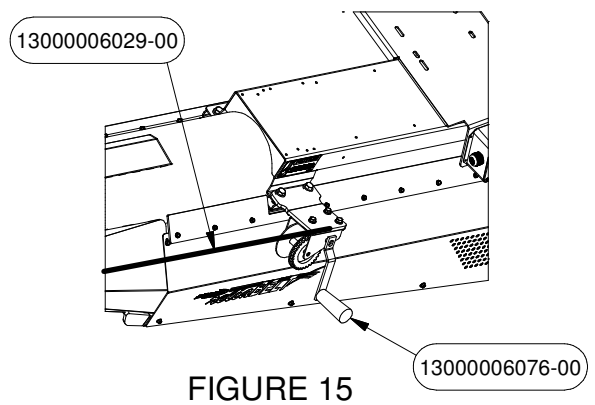
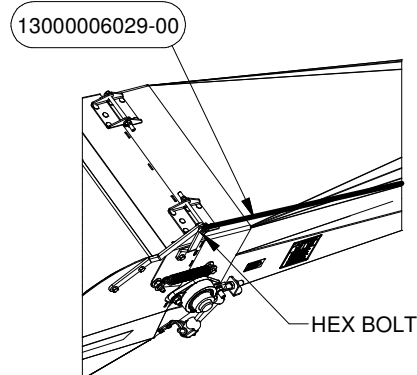

FIGURE 15
FIGURE 15.1
29. Wrap the Cable PN# 6029 to the Winch PN# 6076 as shown in Figure 15. Loop the other end to the Bolt located at the Arms and clamp it using Cable Clamps PN# 32014109 as shown in Figure 15.1. Cable can be found in a Kit PN# 6611.